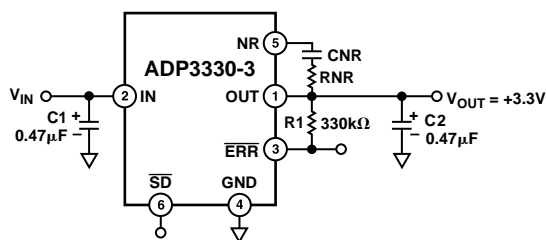

Figure 21. Noise Reduction Circuit
A noise reduction capacitor (C_{NR}) can be used to further reduce the noise by 6 dB–10 dB (Figure 21). Low leakage capacitors in 10 pF–500 pF range provide the best performance. Since the noise reduction pin (NR) is internally connected to a high impedance node, any connection to this node should be carefully done to avoid noise pickup from external sources. The pad connected to this pin should be as small as possible and long PC board traces are not recommended.